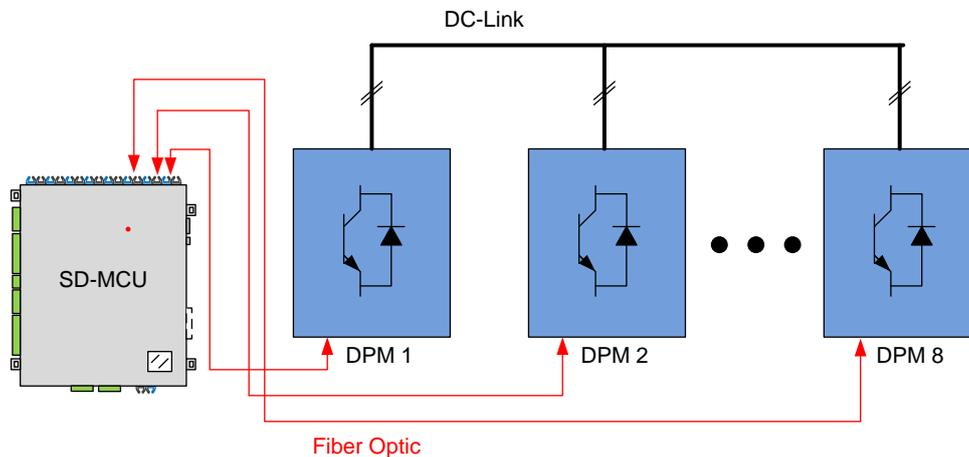

Fig. 3-16: Drive Size general configuration
The main rule is that a Drive Size is composed from 1 up to 8 DPM of the same typology. The general configuration is showed in Fig. 3-16. The standard code is $n \times$ DPM code (ZZZZ) where n is the number of DPM parallel connected to obtain the selected drive size and ZZZZ is the total power (e.g. 6 x SDI.2.A.1M00.690- LV2L (6M00)).
- *Class overload (I_{clx})*: defines the rated current for each overload class. In the hardware manual are defined all of the parameters that characterize each overload class shown in Fig. 3-16. X defines the class number from 0 to 2.